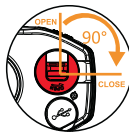
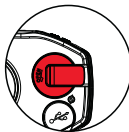

Figure 4
Figure 5
3. After the battery is installed, press down on the battery cover and rotate it 90° clockwise, as shown in Figure 4. Then press down the rotating handle, as shown in Figure 5.